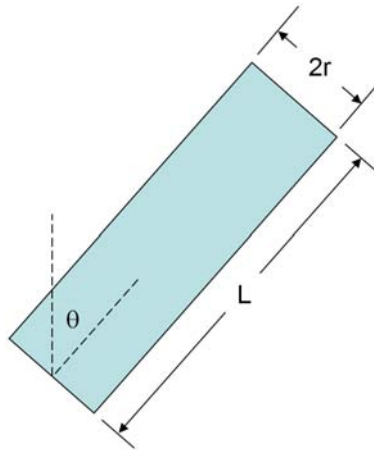

Figure 2: 2-D model of an alloy containing precipitates that will induce strengthening.
4. As the chief materials scientist at Strengthened Metalworks, Inc. you are developing a model to predict the amount of precipitate strengthening (aka precipitate hardening) in a material which includes precipitates shaped as rods rather than spheres. Your first attempt is a 2-D model in which a dislocation cuts through a rectangular precipitate with side lengths  $L$  and  $2r$ , and random orientation  $\theta$ , as shown in Fig. 2.